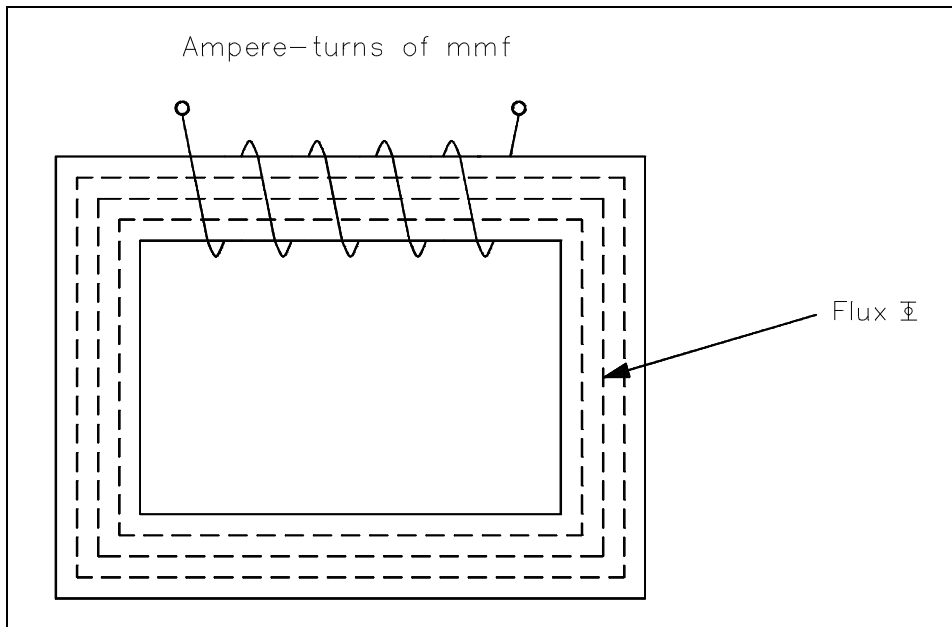

Figure 26 Magnetic Current with Closed Iron Path
A magnetic circuit can be compared with an electric circuit in which EMF, or voltage, produces a current flow. The ampere-turns (NI), or the magnetomotive force ( $F_m$  or mmf), will produce a magnetic flux  $\Phi$  (Figure 26). The mmf can be compared with EMF, and the flux ( $\Phi$ ) can be compared to current. Equation (1-16) is the mathematical representation of magnetomotive force